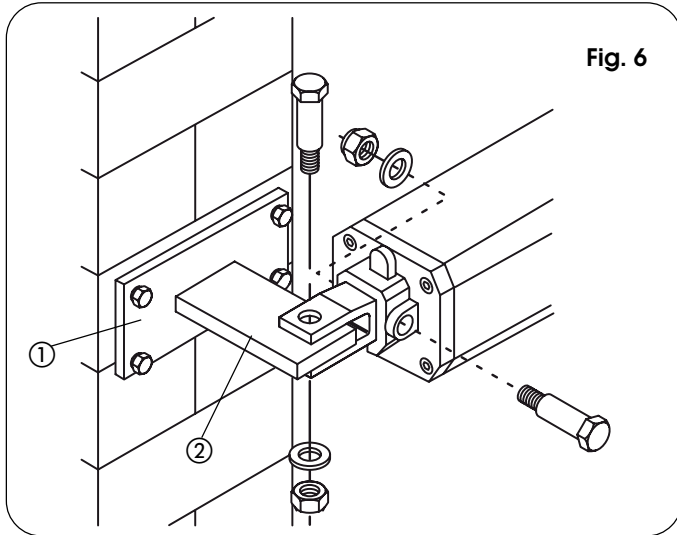

Fig. 6
- For iron pilasters, accurately weld the rear attachment (ref. ②, Fig. 6) directly on the pilaster.
- B) secure, with screws and expansion plugs, the rear attachment plate (ref. a, Fig. 6) to the pilaster and then accurately weld the rear attachment to the plate as shown in Fig. 6.
- 2) Secure the operator to the rear attachment with the supplied screws (Fig. 6), taking care to position the operator with the BY-PASS screws facing up and the consequent RELEASE screw facing the ground.